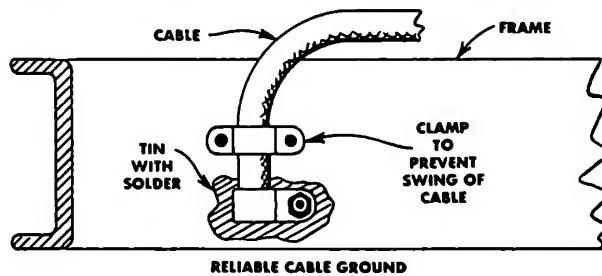

Fig. 11-2
Recommended ground connections and methods of preventing cable swing are shown in Fig. 11-2. The surface of the frame at the connection is tinned to prevent rust and corrosion.
mended two-wire system is not used on the starting motor circuit, the ground wire should go directly from the positive terminal to the steel frame members and be grounded as shown in Fig. 11-2. The starter mounting surface should not be used for the ground circuit since the pads on the flywheel housing must carry this current to the frame and they may have paint or other highly resistant material on them.
3. All generator installations should be checked carefully to make sure that they are properly grounded to the engine block. The generator mounting pads and mounting surfaces of the bracket and generator frame should be free of paint, oils, greases or any material resistant to electric current. To further complete the ground circuit, the engine should be grounded to the same frame member used to ground the battery, by means of a separate metal strap as shown in Fig. 11-2. This procedure must be followed on third-brush-type generators which have only one terminal, and on other generators having only one armature terminal, since the positive brushes on these generators are grounded to the generator frames.